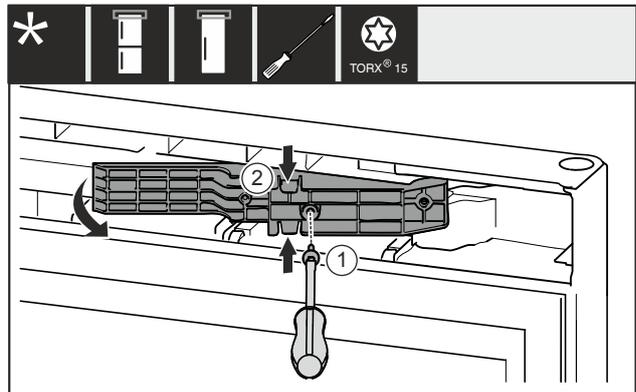

Fig. 15 *
- ▶ Remove the screw Fig. 15 (1)*
- ▶ Gently press the adapter piece Fig. 15 (2) together at the top and bottom and pull it out.*